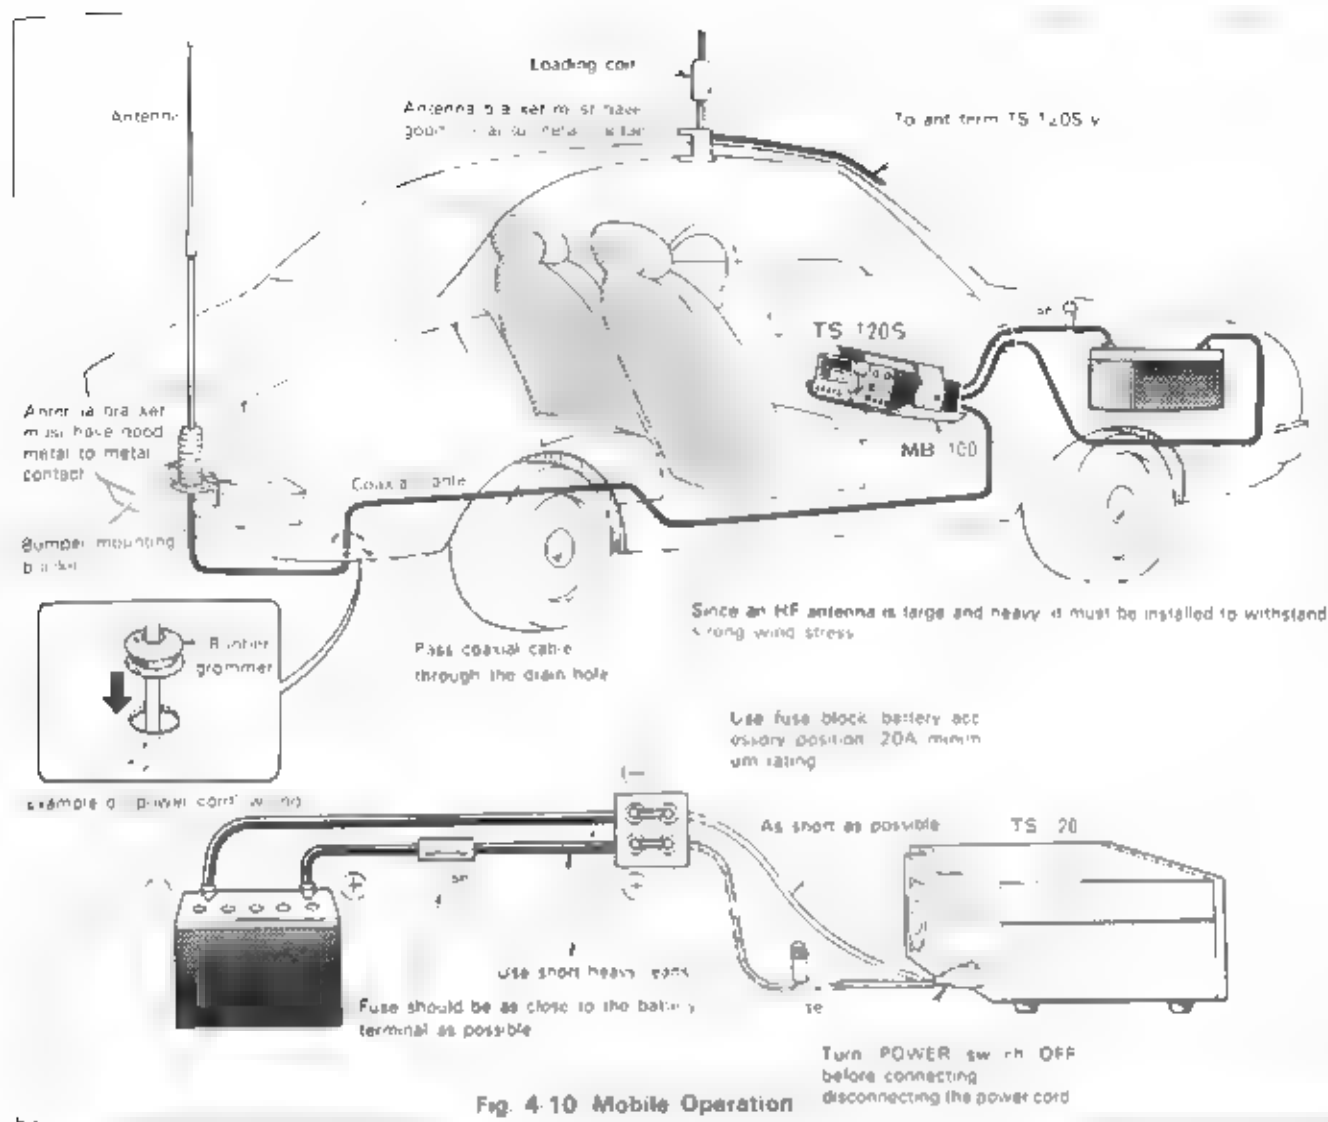

Fig. 4-10 Mobile Operation
4.7 MOBILE OPERATION (Fig. 4-10)
4.7.1. TS-120S(V) INSTALLATION
Secure the TS-120S(V) under the dashboard using an optional MB-100 mounting bracket as shown in Fig. 4-10. As an alternative, use strapping, making sure that the TS-120S(V) will not slip out of place while driving the vehicle.
Use a rugged mount for the mobile antenna because HF antennas are larger (and have more wind load, and heavier than VHF antennas). A bumper mount is recommended for general use. The ground side of the mount must be grounded perfectly to the body of the car since the body itself functions as the ground plane for the mobile antenna. (Refer to Fig. 4-10)
- 2 When tuning the newly installed antenna use the TS-120S(V) in the following procedure
- With the TS-120S(V) in transmit mode, raise transmit power output slowly by rotating the CAR control clockwise. The antenna can be adjusted with minimum power
(2) Coaxial Cable Connection (Fig. 4-10)